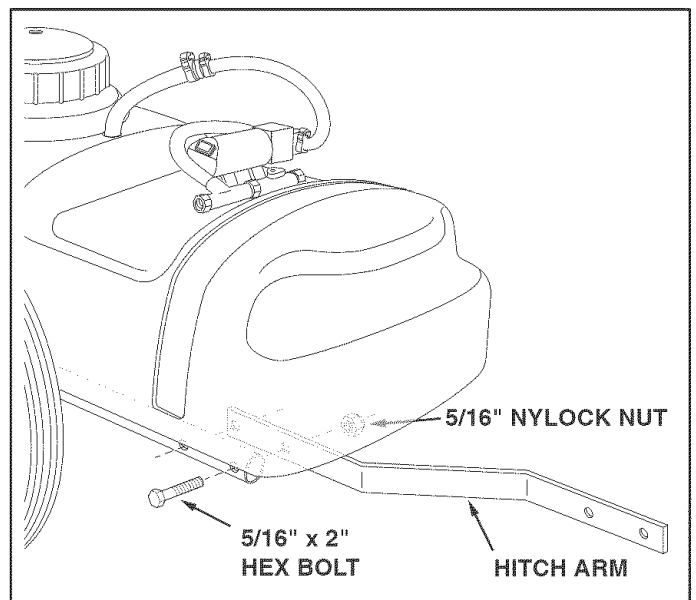
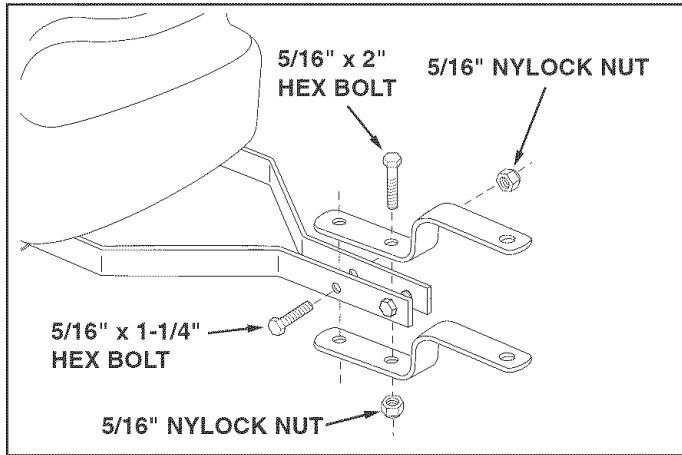

FIGURE 2
FIGURE 3
- Assemble a hitch arm to the inside of a frame tube underneath the tank. Use two 5/16" x 2" hex bolts and 5/16" nylock nuts as shown in figure 2. **Do not tighten yet.** Repeat for other side.
- Fasten the ends of the hitch arms together using two 5/16" x 1-1/4" hex bolts and 5/16" nylock nuts. **Do not tighten yet.** See figure 3.
- Assemble the hitch brackets to the hitch arms using two 5/16" x 2" hex bolts and 5/16" nylock nuts. Position each bolt behind one of the cross bolts in the hitch arms. **Do not tighten yet.** See figure 3.
- At this time **tighten all bolts** starting with the bolts in figure 2, then the bolts in figure 3.